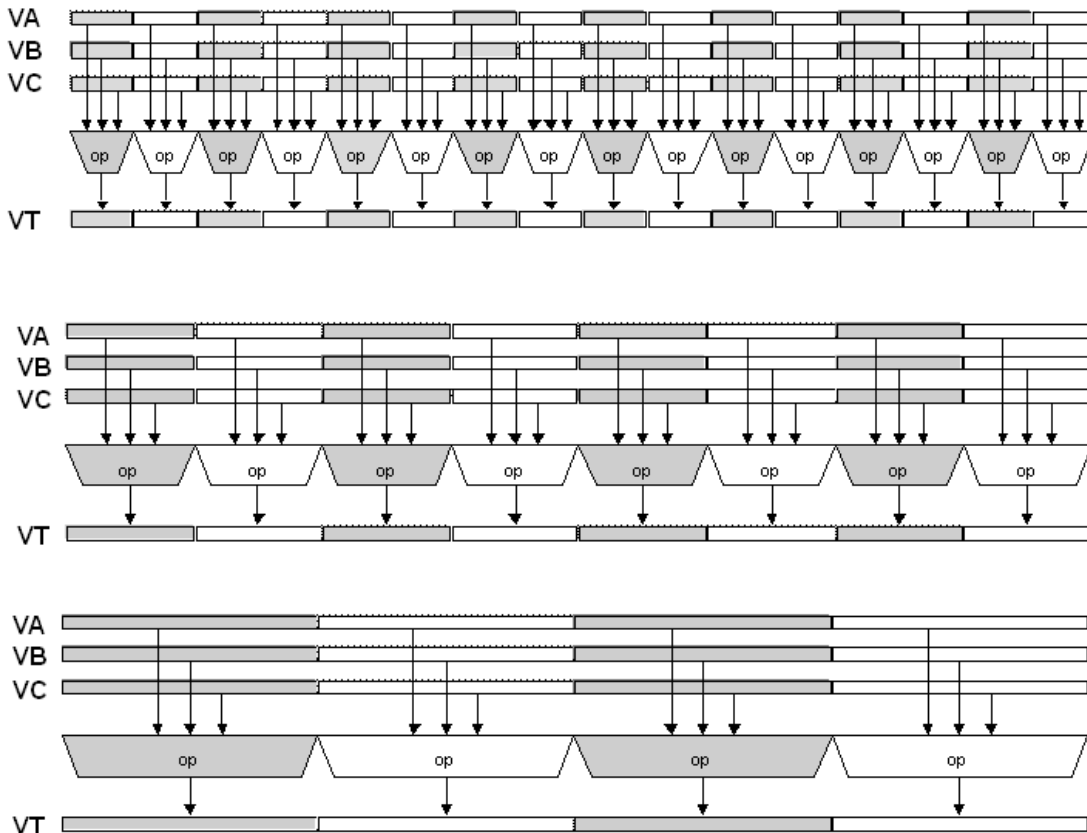

Figure 7. AltiVec Degrees of Parallelism
The new instructions allow vector/SIMD operations on 128-bit wide vector registers (VR) through any of the four AltiVec execution units: permute, simple, complex, and float, each of which have 2-, 1-, 4- and 4-stage pipes respectively. These 128-bit VRS can be used as single 128-bit quantity. In addition, VRs can also be used to provide varying levels of parallelism, yielding a maximum of 16 operations per instruction on 8-bit quantities, or to put into a more comparable format four 32-bit integer-based operations per instruction. These different levels of parallelism can be seen in Figure 7, 16x8 bit, 8x16 bit or 4x32 bit.